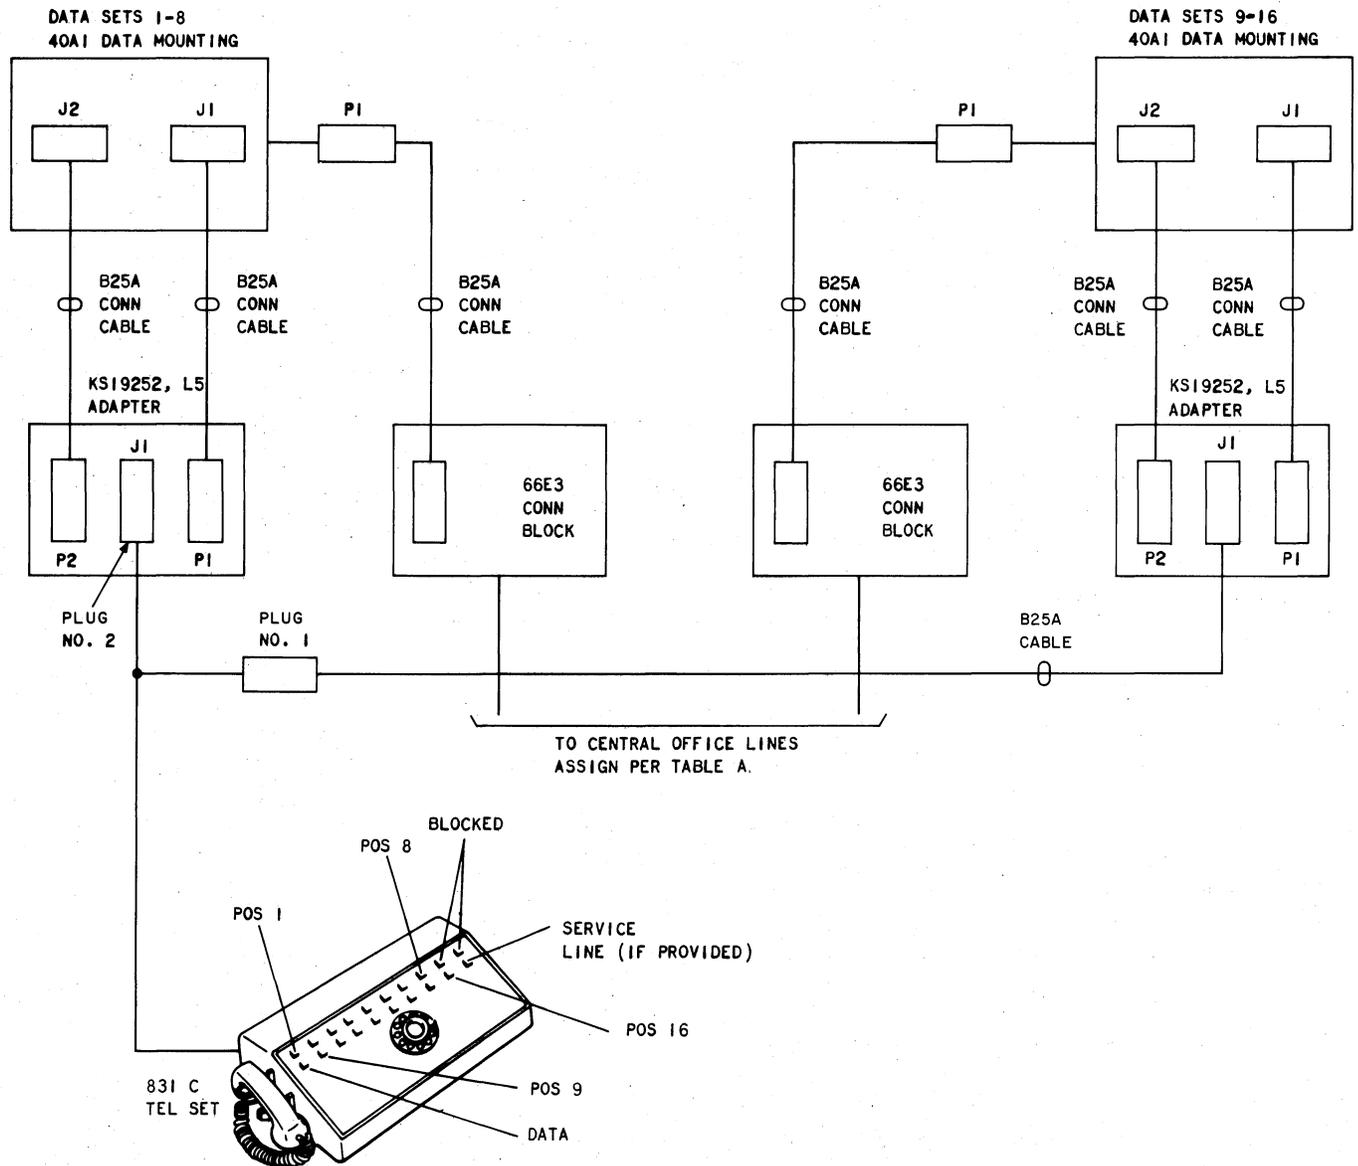

Fig. 8—2025 Data Station Arrangement for 9 to 16 Data Sets With 831C Tel Set
3.14 831C or 2831C Telephone Set: If an 831C or 2831C tel set is used, plug it into J1 of the KS-19252-L5 adapter. Plug P1 and P2 of each KS-19252-L5 adapter into J1 and J2 of the 40A1 data mountings (Fig. 8 and 9). Positions 9 and 10 on the tel set must be blocked.